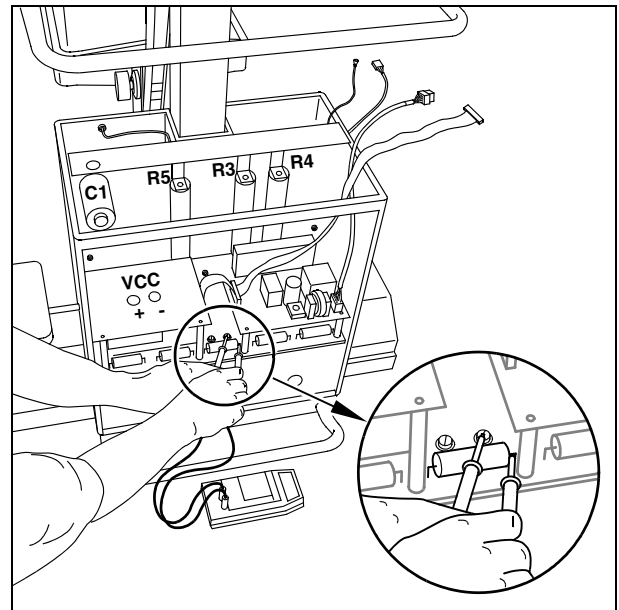

Fig. 11
- Measure the actual voltage present in the capacitor bank with the DVM at test point - VCC and +VCC on the inverter board D960 or (more accessible) on the capacitor board D970 at the + connecting point of the C3 capacitor and on the right-hand side of fuse F3 (see Fig. 11).
- Unscrew the three Allen screws (2/ Fig. 11).
- Pull out the connectors X3 and X9 (3/ Fig. 11) on the charging board D950.
- Remove flat ribbon cable X20 (4/ Fig. 11) from the inverter board D960 and from the charging board D950.
In this case, discharge the affected capacitor with the discharging resistor R5 (5/ Fig. 11) .